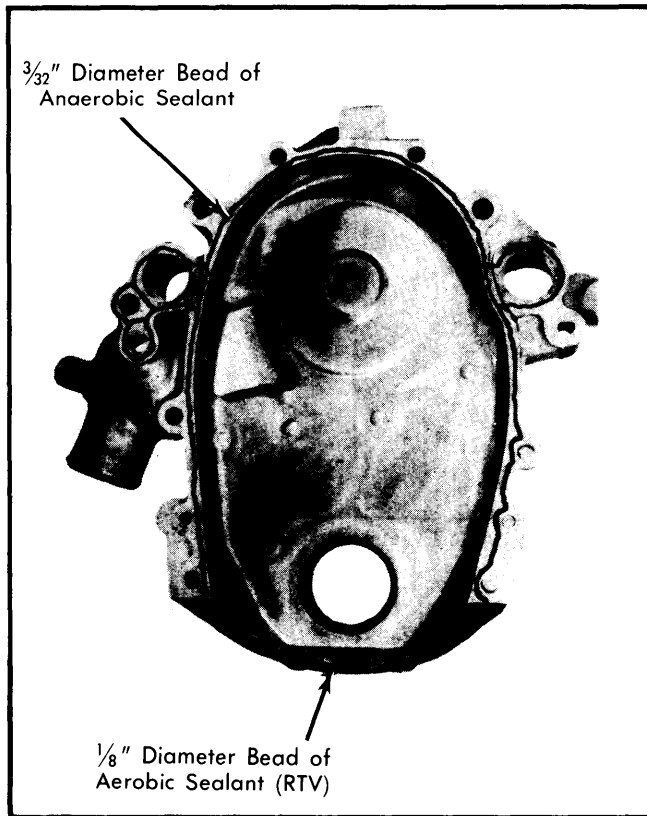

Fig. 10 Front Cover Sealant Placement
**Installation** — Clean sealing surfaces thoroughly. Apply a continuous 3/32" bead of anaerobic sealant to front cover sealing surfaces. See Fig. 10. Place front cover on engine and install water pump using pipe sealer on bolt threads. Install remaining bolts and tighten. Reverse removal procedure to complete operation.